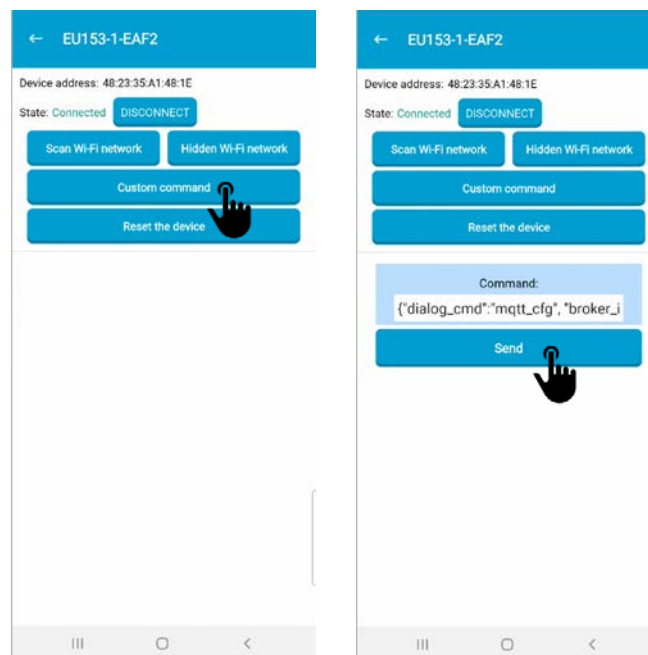

Figure 7. MQTT broker and client parameters
11. When the device is connected to the WiFi you can setup MQTT broker address and client parameters. This is done by copying and pasting custom command in json format. Detailed print screens are in Figure 7.